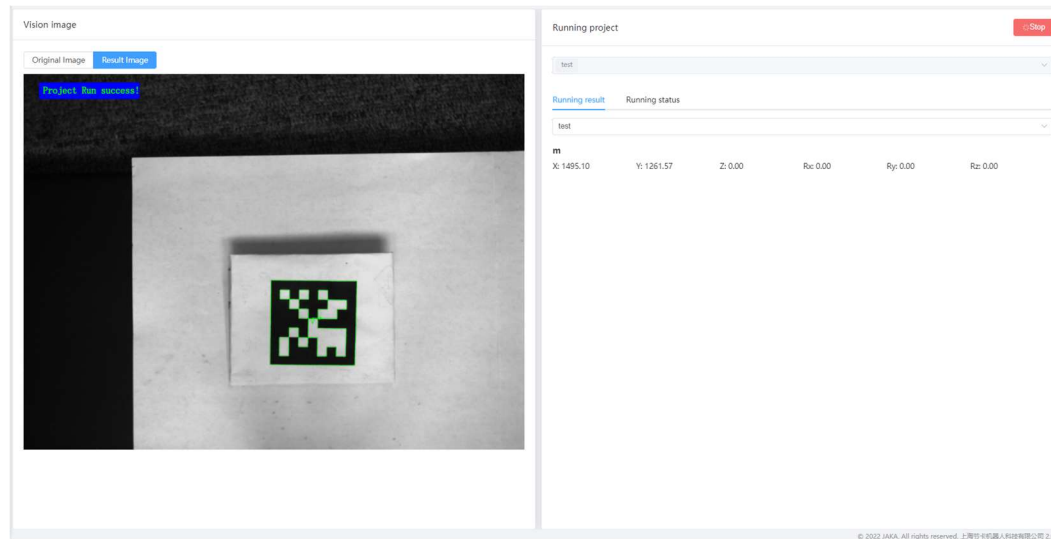

Figure 9.1.5 Project Running Homepage
3. Check the results of the template matching tool in the result bar, as shown in Figure 9.1.5, and record X, Y, and Rz;